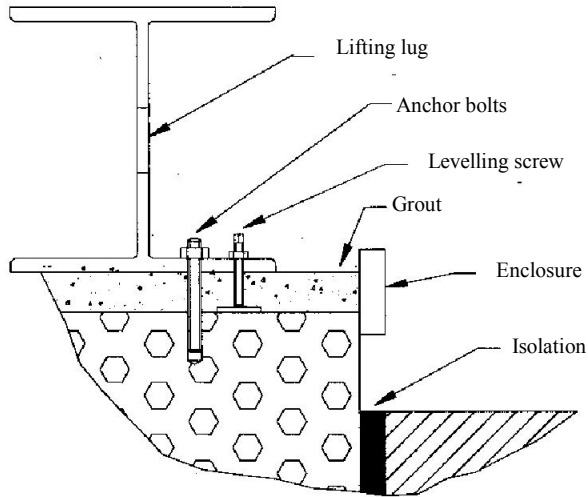

Figure A2-1
- Clean the surfaces of the pad and prepare it for grouting. Provide an enclosure as shown in Figure A2-1. Pour grout under the base to the level indicated in Figure A2-1. Avoid the use of mechanical vibrators so as not to disturb the level surface obtained. Instead, promote grout with the use of bars or chains.